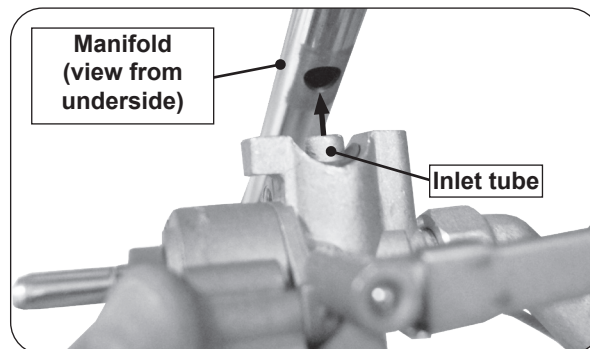

Fig. 2-2 Attach new valve to manifold
9. Align the new valve assembly to the manifold and insert the gas valve inlet tube to the exposed hole on the manifold (see Fig. 2-2).